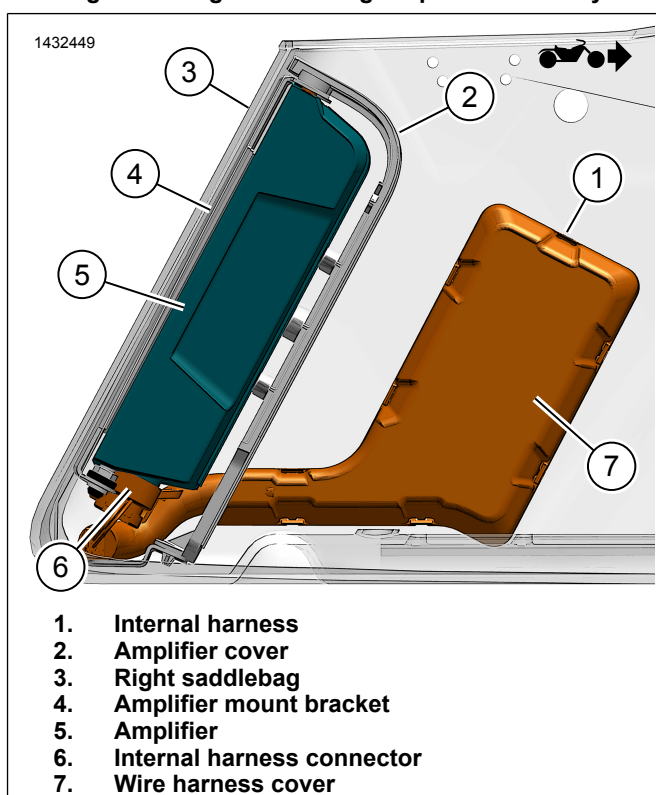
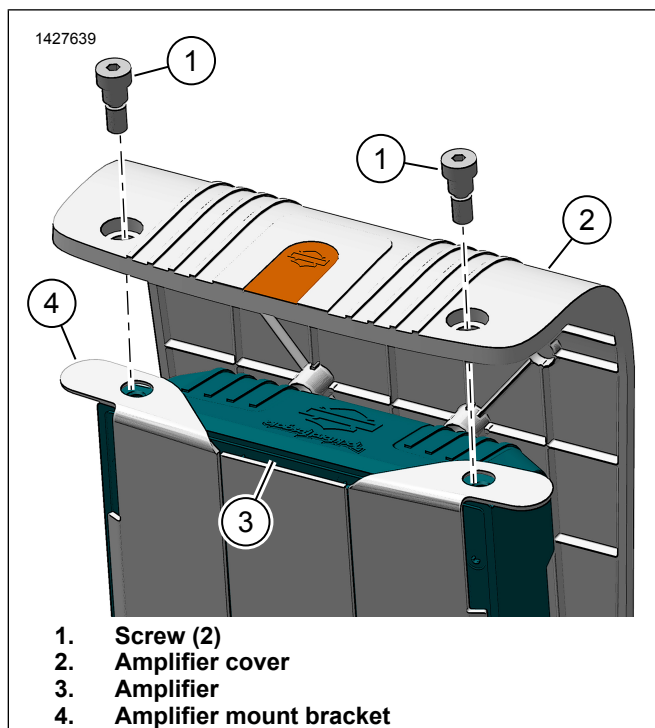

Figure 15. Saddlebag Harness with Amplifier
Figure 16. Amplifier Cover
7. See Figure 15. Install amplifier (5) into amplifier mount bracket (4).
8. Install amplifier cover (2).
9. See Figure 16. Install screws (1). Tighten.